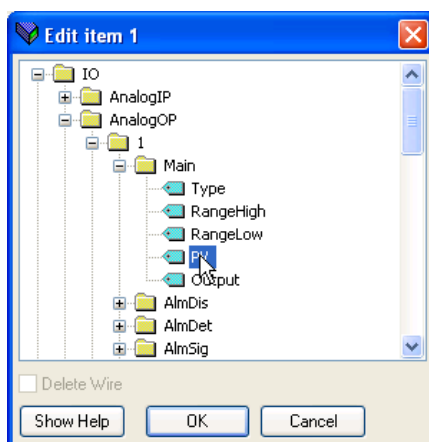

Figure 133 Parameter Browse Window
4. A parameter Browse window appears (Figure 133) for the selected row (1 in the figure), allowing the user to select a parameter.